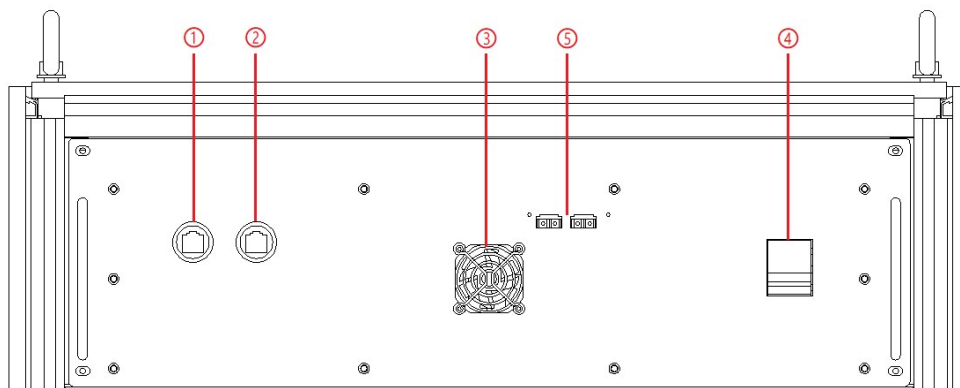

Figure 3-2 Control Modules
After the AC input side is powered on, open the cabinet door, close the power switch of the control module (Figure 3-2 ④), power to the product control module.